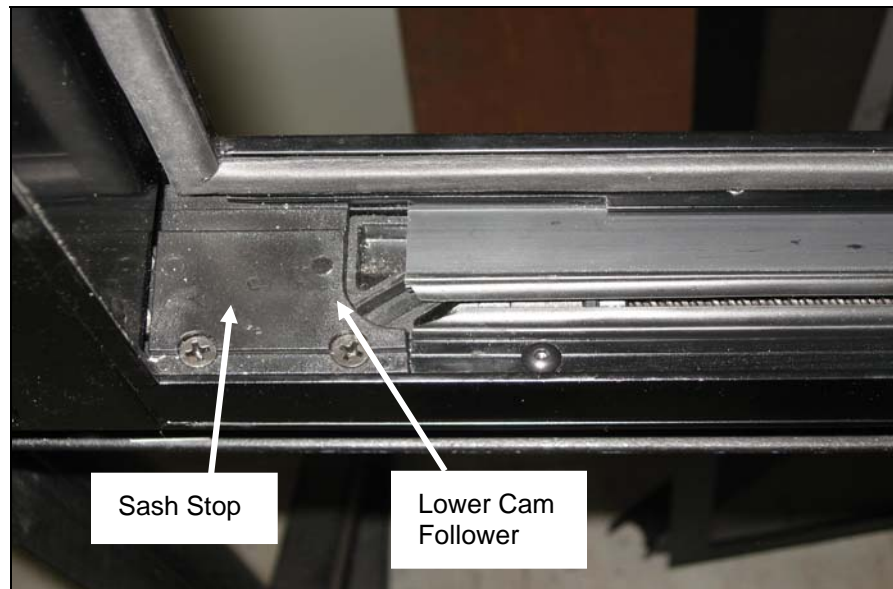

FIGURE 66: PROPER ALIGNMENT
1. Align the leading edge of the slot on the lower cam follower block with the sash stop. Use the power toggle switch to obtain the correct alignment. (Figure 66)